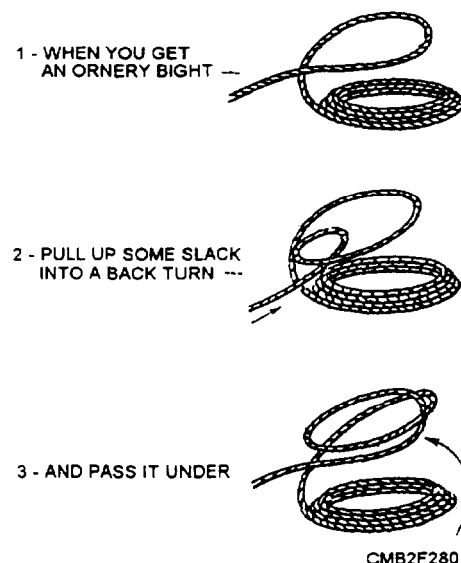

Figure 6-39.—Throwing a back turn.
**COILING AND UNCOILING.**—Once a new reel has been opened, it may be coiled or faked down, like line. The proper direction of coiling is counterclockwise for left lay and clockwise for right lay wire rope. Because of the general toughness and resilience of wire, it tends now and then to resist being coiled down. When this occurs, it is useless to fight the wire by forcing down the turn because it will only spring up again. But if it is thrown in a back turn, as shown in figure 6-39, it will lie down properly. A wire rope, when faked down, will run right off, like line; but when wound in a coil, it must always be unwound.